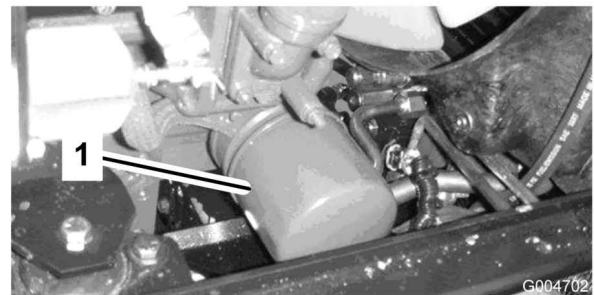

Figure 49
2. Remove the oil filter (Figure 49). Apply a light coat of clean oil to the new filter seal before screwing it on. **Do not overtighten.**